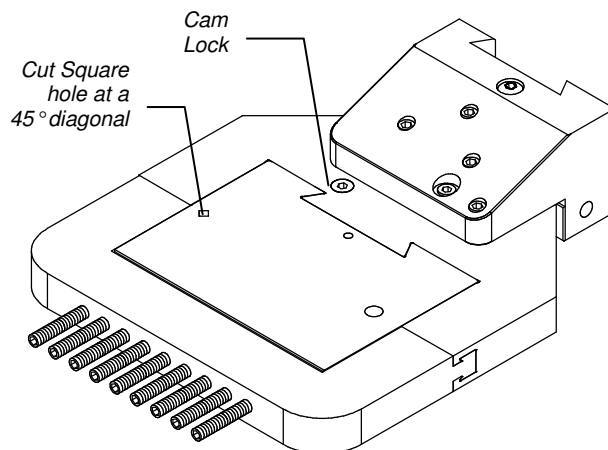

Figure 15
Place the large insert into the body of the RH01 and secure it with the cam lock as shown in Fig. 15. **DO NOT OVER TIGHTEN CAM LOCK.**
STEP 25. Cut a square hole at a 45° diagonal to fit a .127 diameter pin as shown in Fig.15.